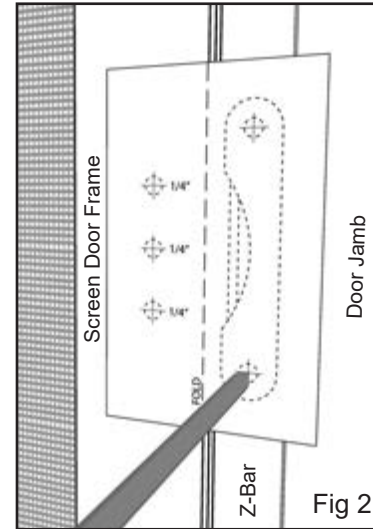

Fig 2
- B. Unfold template and align with three drilled holes. Close door and mark two strike holes on door jamb Z-Bar (**Fig 2**).
- E. Drill two 1/8" pilot holes for the strike using the marks made in **Step B (Fig 2)**.